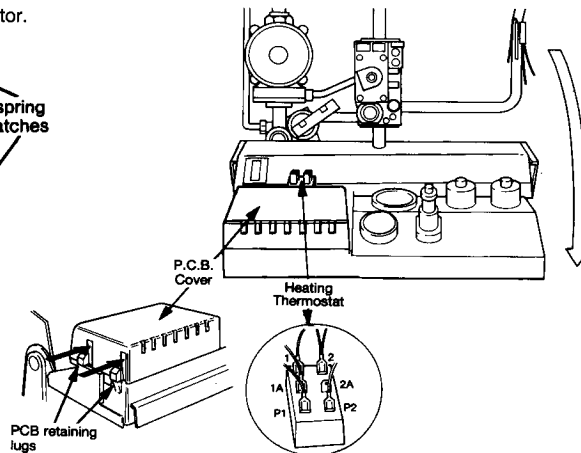

Fig. 39
Refer to fig. 39
- 8.18.20** Press in the sides of the printed circuit board cover (fig. 39) to release retaining clips and lift cover off.
Remove wire on terminal No. 1 of thermostat and replace on terminal No 1A (see fig. 39).